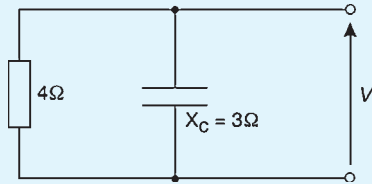

Figure 16.18
13. The magnitude of the impedance of the circuit shown in Fig. 16.18 is: